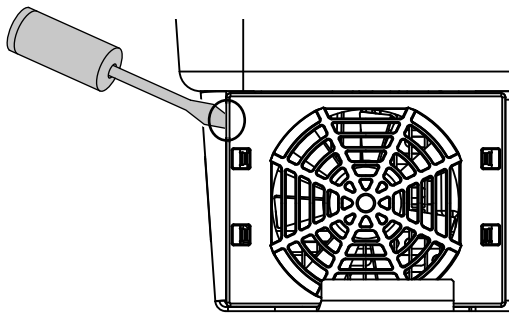

Fig. 52: Loosen fan grill
2. Dismantle the fan. To do this, place a screwdriver at the edge of the fan grill and apply a little pressure to the fan grill. ➤ Fig. 52